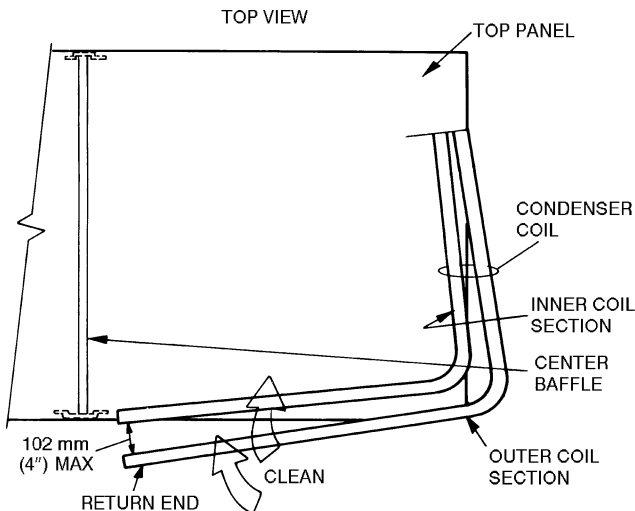

Fig. 47 — Separating Coil Sections
5. Remove fastener holding coil sections together at return end of condenser coil. Carefully separate the outer coil section 3 to 4 in. from the inner coil section. See Fig. 47.